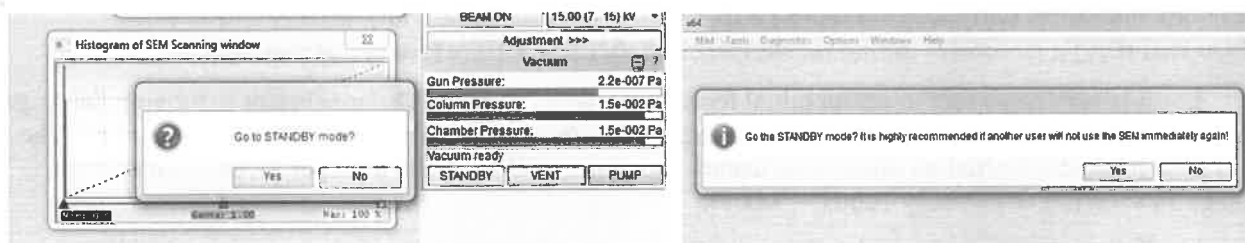

Figure 9. SEM Logoff and Standby Process
- f. Logoff the SEM by selecting LOG OFF from the File MENU. This will prompt the user to go to STANDBY. Select YES to enter STANDBY and complete the LOG OFF. See Figure 9. If the Authorized User already placed the SEM in STANDBY, the LOG OFF process will complete without a prompt to go STANDBY.